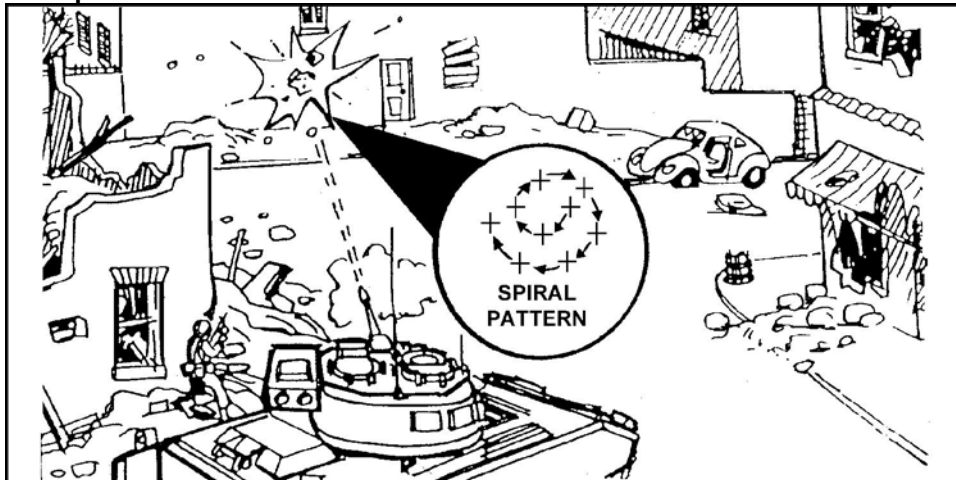

Figure 4. Spiral firing pattern.
- c. Breach walls en route to and in the objective structure. This is best accomplished with the 25-mm automatic gun, using a spiral firing pattern (Figure 4).